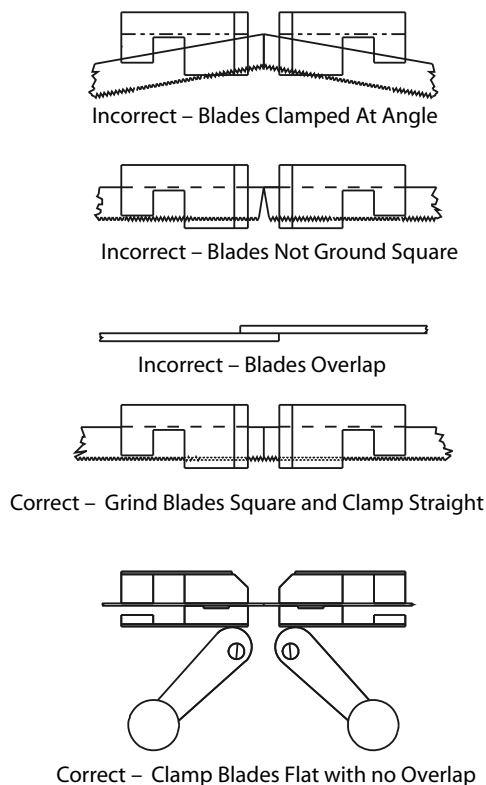

Figure 6 – Blade mounting and clamping.
Refer to Figure 6.
4. Firmly set back of blade against back alignment surface of welder jaw and clamp blade tight with the jaw clamping handle (See Figure 6).
IMPORTANT: The blade ends should butt against each other over the full width of the blade and should not overlap (See Figure 6).